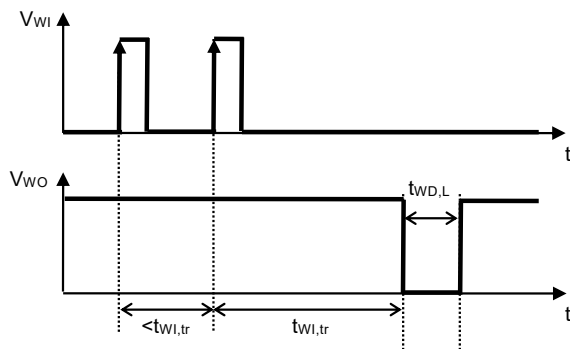

Figure 10 Watchdog Trigger Time
- \*1. The time when the WO pin continues "L" after the watchdog timer detects a time-out or double-pulse (Refer to **Figure 10**). This value changes according to  $C_{DLY}$ .
- \*2. The time from when the watchdog timer initiates the detection of a trigger signal to when a time-out is detected and the WO pin output changes to "L" (Refer to **Figure 10**). This value changes according to  $C_{DLY}$ .